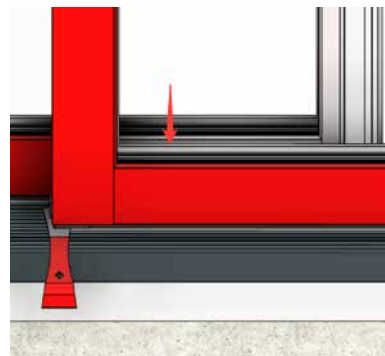

Fig P11
- The panel will then full sit down into the track (Fig. P11). Remove the pry-bar from under the panel by pulling directly outward